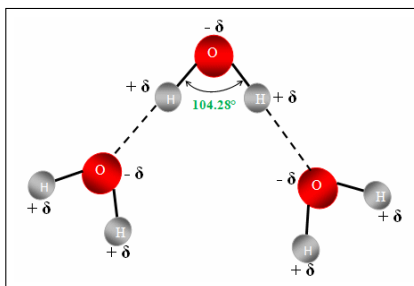

Figure 1.4: Water molecules.
The composition of the water molecule and its most important characteristics are summarized as follows (Figure 1.4) : **Composition:** **One Oxygen** (O) atom covalently bonded to **two Hydrogen** (H) atoms (H_2O).